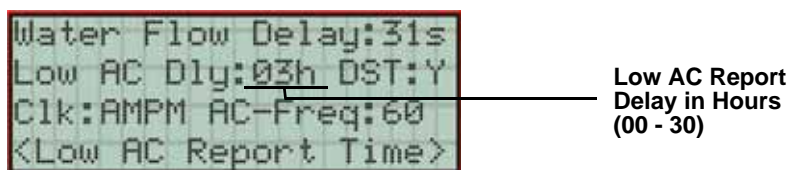

Figure 7-21 Low AC Report Delay Programming Screen
7. Enter the number of hours before a low AC report will be sent to the central station, then press . Refer to Figure 7-21.